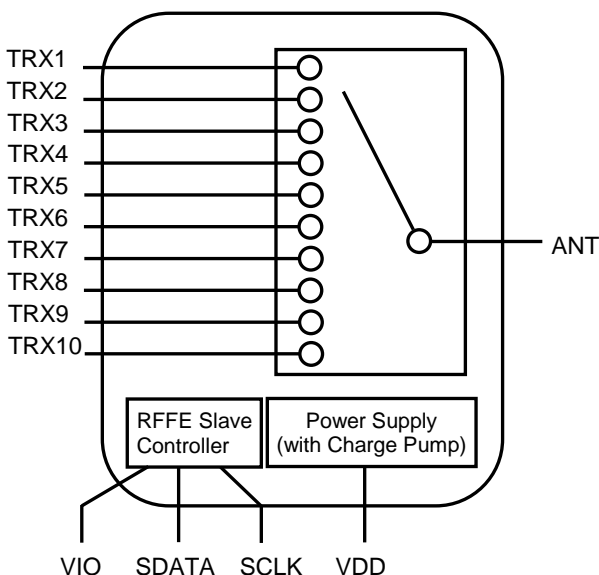

Figure 1. RFASWE660DTF03 Block Diagram
- The functional block diagram is shown in Figure 1. The pin assignment and package are shown in Figure 2. Signal pin assignments and functional pin descriptions are provided in Table 1.